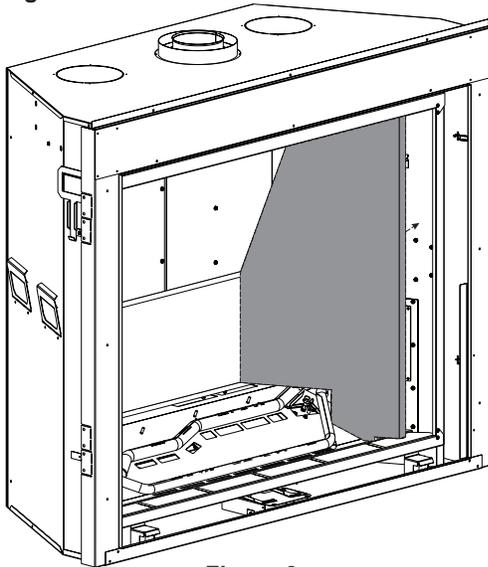

Figure 3
2. Place LINER SIDE - RIGHT against right firebox wall and LINER REAR - BOTTOM and push back to hold into place. See Figure 3.